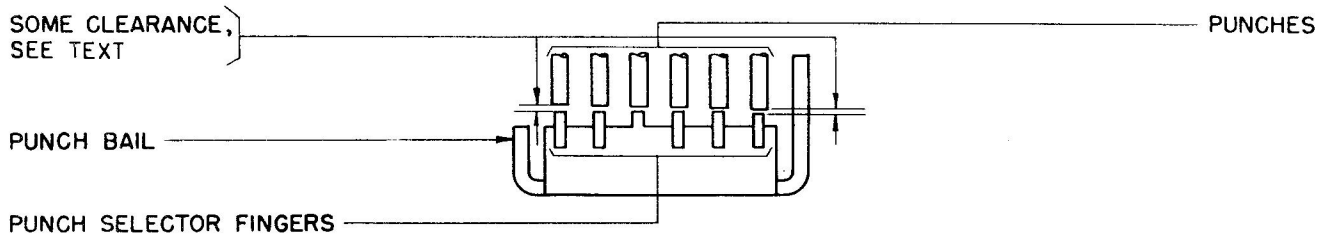

FIGURE 4
(a) With the punch selector fingers held against their respective punches, the rear edge of the rear finger and the front edge of the front finger should be within the outer edges of their respective punches. See Figure 4 for location of parts.
*(b) The front and rear selector fingers should touch their respective punches at the same time, or, if one of these two fingers touches its respective punch before the other, the finger not touching its punch should clear the punch by not more than .002". See Figure 4.